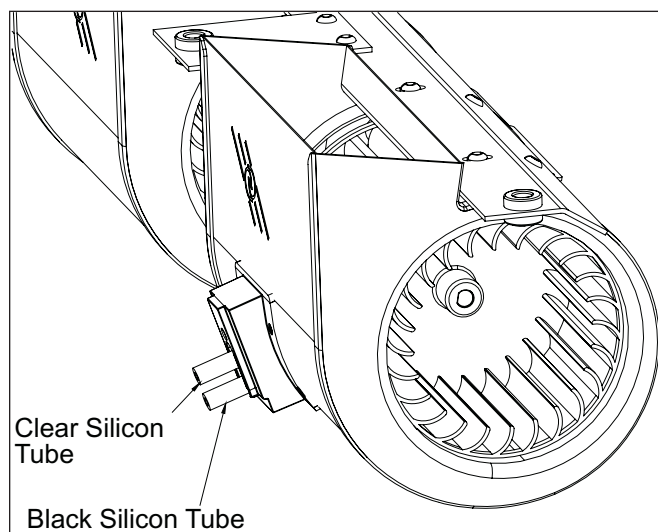

FIG 37 Room Fan
7. Replace silicone tubes onto fan pressure switch ensuring that the black tube is connected to the black side of the pressure switch. Check to make sure that the tubes are not kinked or pinched. Refer to FIG 37.